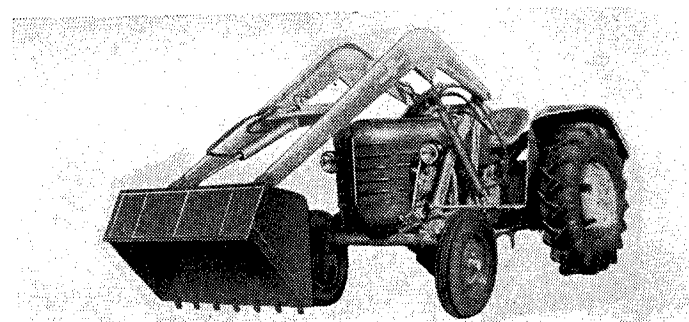

Fig. 14
At the first clutch pedal depressing (I) shift the little lever to position "3" — in this position the hydraulic pump is driven through the gear box (Fig. 14)